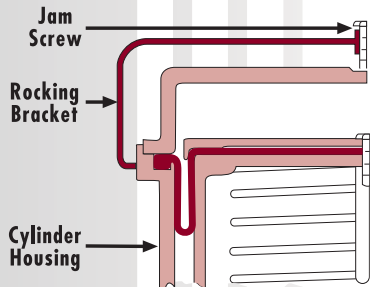

Fig. 26: Pivot Rocking Bracket
**Pivoted Rocking Bracket (fig. 26)** – This is another low cost design which also has the advantage of quick assembly and disassembly. A pivoted rocking bracket is attached to the housing flange. The central jam screw holds the bonnet firmly against the mating flange area. The unit can be disassembled quickly by loosening the screw and pivoting the bracket to release the bonnet assembly and BRD. In general, this design is also limited to low pressure.